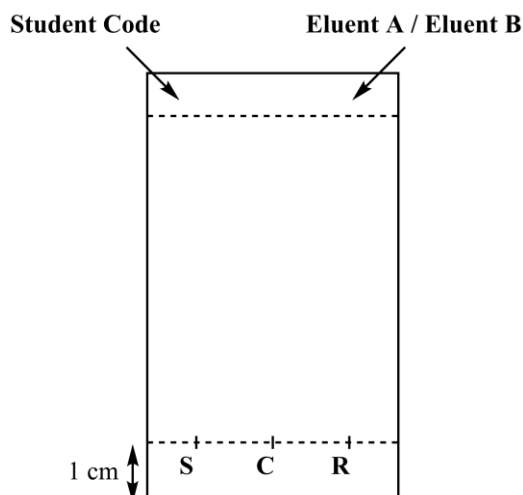

Figure 3. TLC plate preparation
3. **Prepare your TLC plate.** Use a pencil to **draw** carefully the start line (1 cm above the bottom of the plate) and **mark** the positions to spot the 3 samples. Use the following labels: **S** (Starting material), **C** (Crude product) and **R** (Recrystallized product) (see Figure 3).